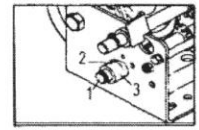

Fig.1
- A.Insert brake drum (3) to pinion shaft (1) and knock pin into symmetrical holes on brake drum & pinion shaft. (Please refer to Fig. 1)